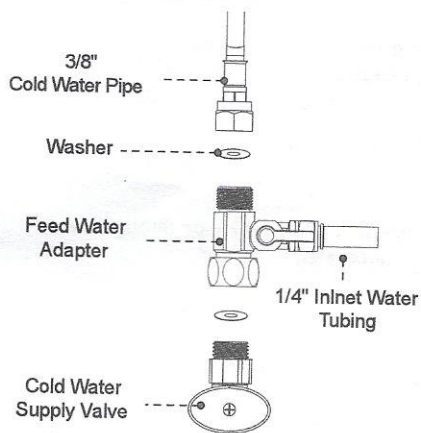

Figure 4
4. Tighten the converter. Twist the feed water adapter onto the cold water supply valve (with its washer) and tighten it using an adjustable wrench (Figure 4).